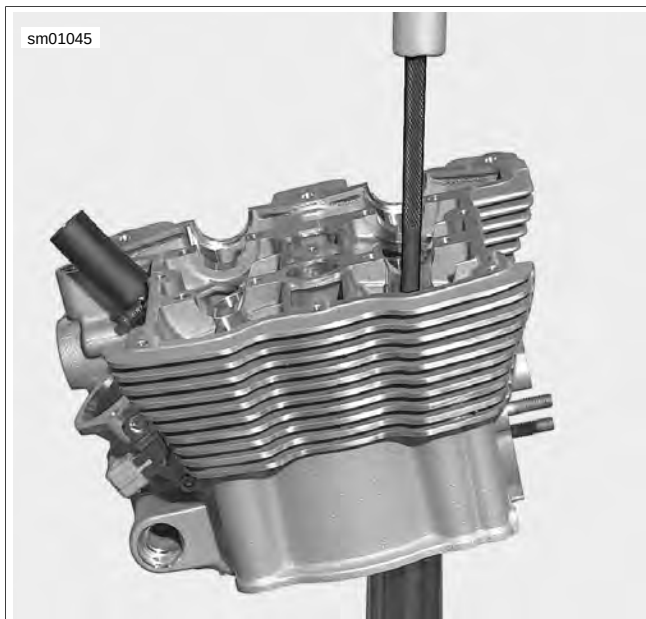

Figure 3-63. Valve Guide Removal (typical)
8. See Figure 3-63. Remove and replace the valve guides that do not meet specifications. Position head for removal of valve guide. Use CYLINDER HEAD SUPPORT STAND (Part No. HD-39782) with CYLINDER SUPPORT ADAPTER (Part No. HD-39782-13) for intake valves and CYLINDER SUPPORT ADAPTER (Part No. HD-39782-14) for exhaust valves.